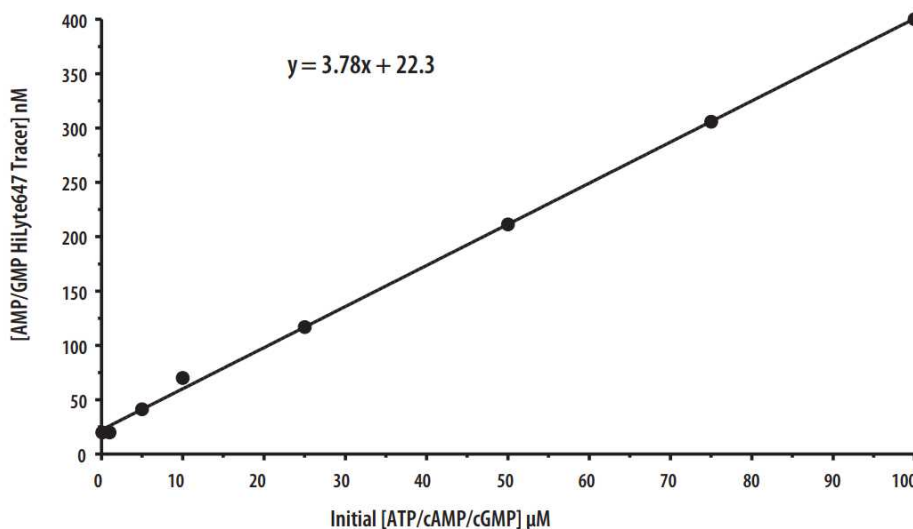

Figure 3. Linear relationship between [ATP/cAMP/cGMP] and [AMP/GMP Tracer]. The tracer concentration can be calculated using the equation: $y = 3.78x + 22.3$
As shown in **Figure 3**, the relationship between ATP/cAMP/cGMP and AMP/GMP HiLyte647 Tracer concentrations is linear. (Though shown for up to 100 μM ATP/cAMP/cGMP, the relationship is valid to 1,000 μM .) Therefore, the quantity of AMP/GMP HiLyte647 Tracer for enzyme reactions that use between 0.1 μM and 1,000 μM initial ATP/cAMP/cGMP can be determined using the equation $y = mx + b$, where x = initial [ATP/cAMP/cGMP] (μM) in the 15 μL enzyme reaction, y = [AMP/GMP HiLyte647 Tracer] (nM) in the 5 μL of 1X AMP/GMP Detection Mixture, m (slope) = 3.78, and b (y-intercept) = 22.3. We recommend a final reaction volume of 20 μL .
Using the AMP/GMP HiLyte647 Tracer concentration calculated using the equation in **Figure 3** will produce excellent results for most users. If it does not produce the results you require, simply optimize the tracer concentration in a stepwise fashion using the AMP/GMP HiLyte647 Tracer concentration (X) from the line as a starting point. Try performing a standard curve (see **Section 7.1**) at $0.5 \times [Y]$, $[Y]$, and $1.5 \times [Y]$ tracer concentrations to find an assay window that suits your needs. See **Section 6** for troubleshooting suggestions.
Final concentrations in the detection mixture should be 16 nM AMP²/GMP² Antibody-Tb, 25 mM Tris Solution, and the tracer concentration calculated using the equation in Figure 3. An example is shown below: